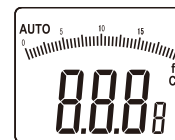

Figure 3-6-2
- Press the "RAN" button to switch between meters and feet (as shown in figure 3-6-2).